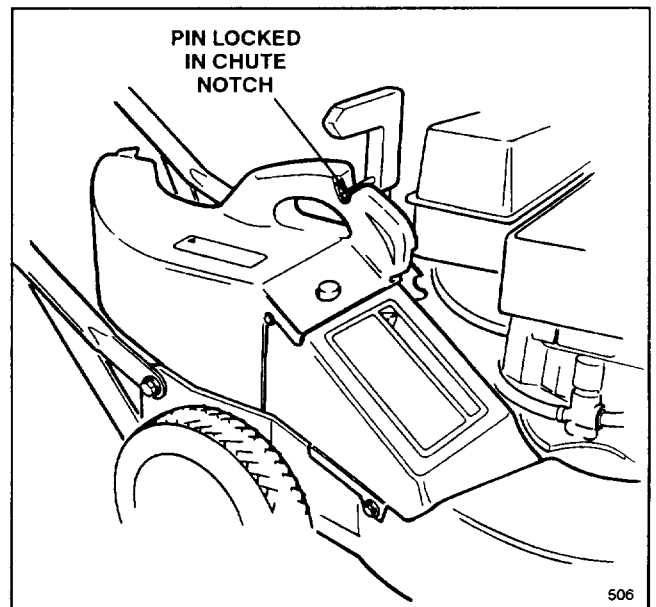

Figure 7
4. Pull discharge door handle forward until pin clears catch and move handle rearward until pin locks in chute notch (Fig. 7). Discharge door in mower housing is now open.